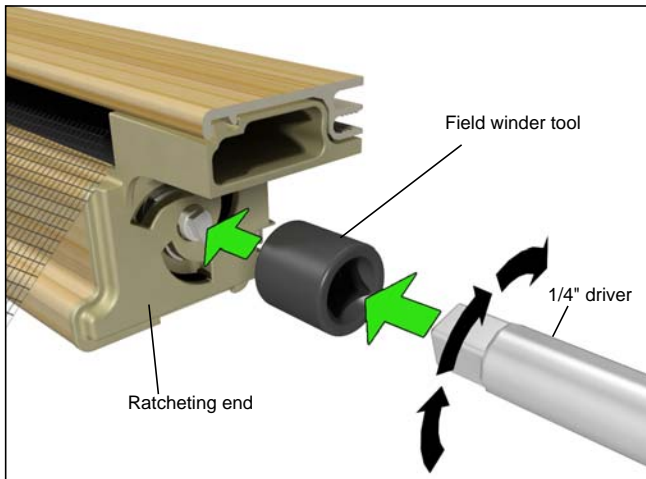

Figure 31
6. Once mesh is concealed within the housing, wind the spring by turning the field winder tool clockwise with the 1/4" driver for a certain number of "clicks". Casement units need 6-12 turns (18-36 clicks) depending on size; Awning units 8-22 turns (24-66 clicks) depending on size. Be sure the mesh is rolled tightly before using the winder tool. See figure 31.